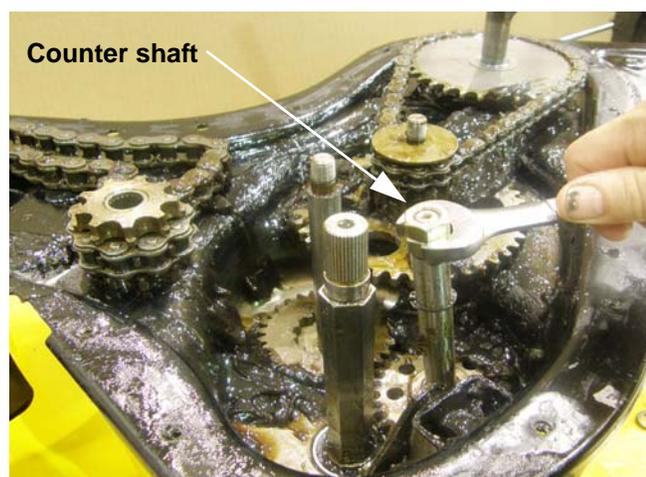

Figure 5.68
9. Double nut the counter shaft and remove the nut, lock washer and Belleville washer from the bottom of the shaft using an 11/16" wrench. See Figure 5.68.